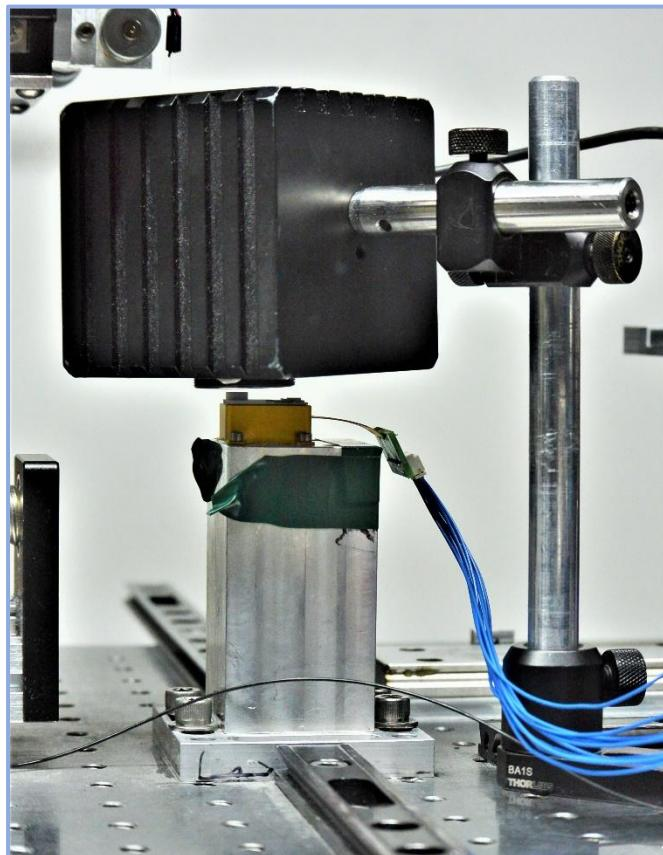

Figure 31 - Power Head, No Mirrors (left)
10.2.2.2 Set up the power head (Figure 31).